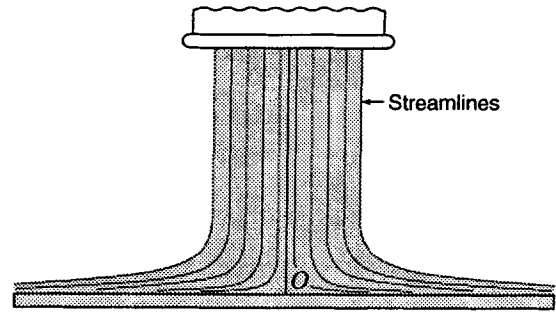

Figure P6.22
6.22 In Fig. P6.22 streamlines are plotted to scale in the plane of the center of a free jet impinging vertically on a horizontal circular plate. The jet diameter is 280 mm and stagnation pressure at point O is 5.5 kPa. By scaling off the pertinent dimensions determine as accurately as possible the velocity of the water as it leaves the plate and the total resultant force exerted by the water on the plate.
By scaling from Fig. P6.22: Water leaves the plate ( $r = 528$  mm) at an average angle of about  $1.2^\circ$  and at a depth of about 18 mm, for example. (Scaling at different points will give rise to somewhat different answers.)
By scaling from Fig. P6.22, and by calculation, for water to one side of the vertical centerline and below the point where the jet first begins to widen: Area  $\approx A = 33\,300 \text{ mm}^2 = 0.0333 \text{ m}^2$ , distance from centerline to centroid  $= r_c \approx 165.7 \text{ mm} = 0.1657 \text{ m}$ .